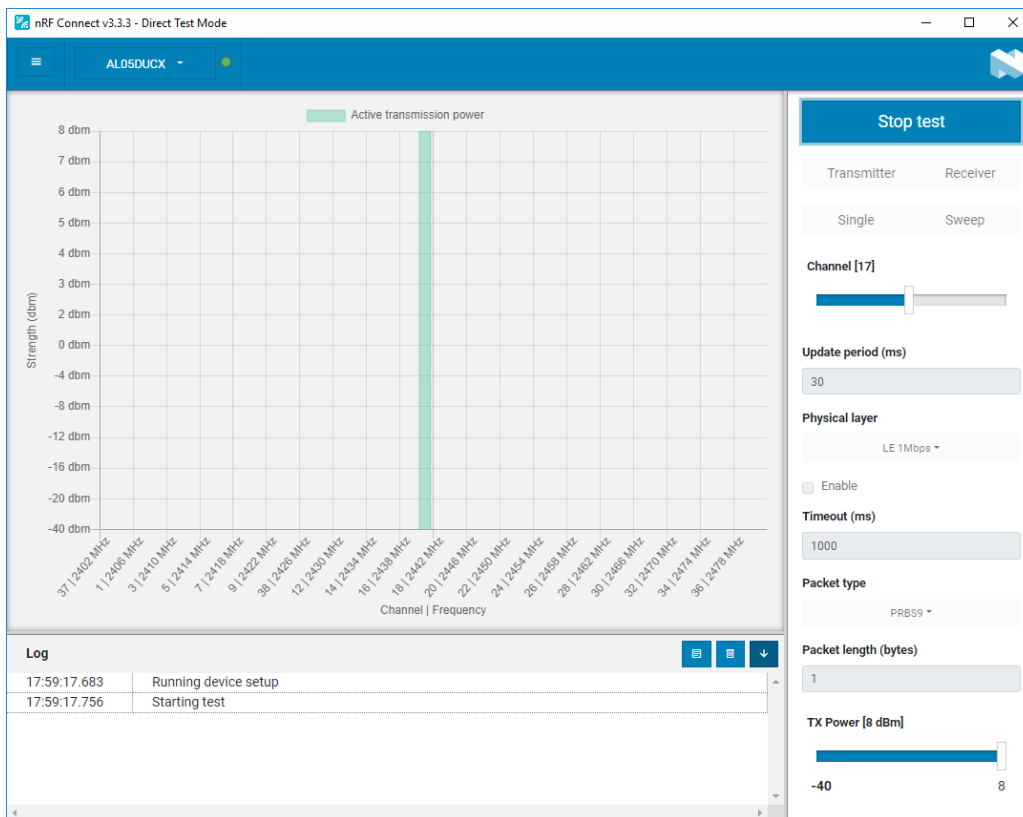

Figure 9: Successful initiation of BLE transmitter test
2. Once configured, click **Start test**. Figure 9 shows an active BLE transmitter test.